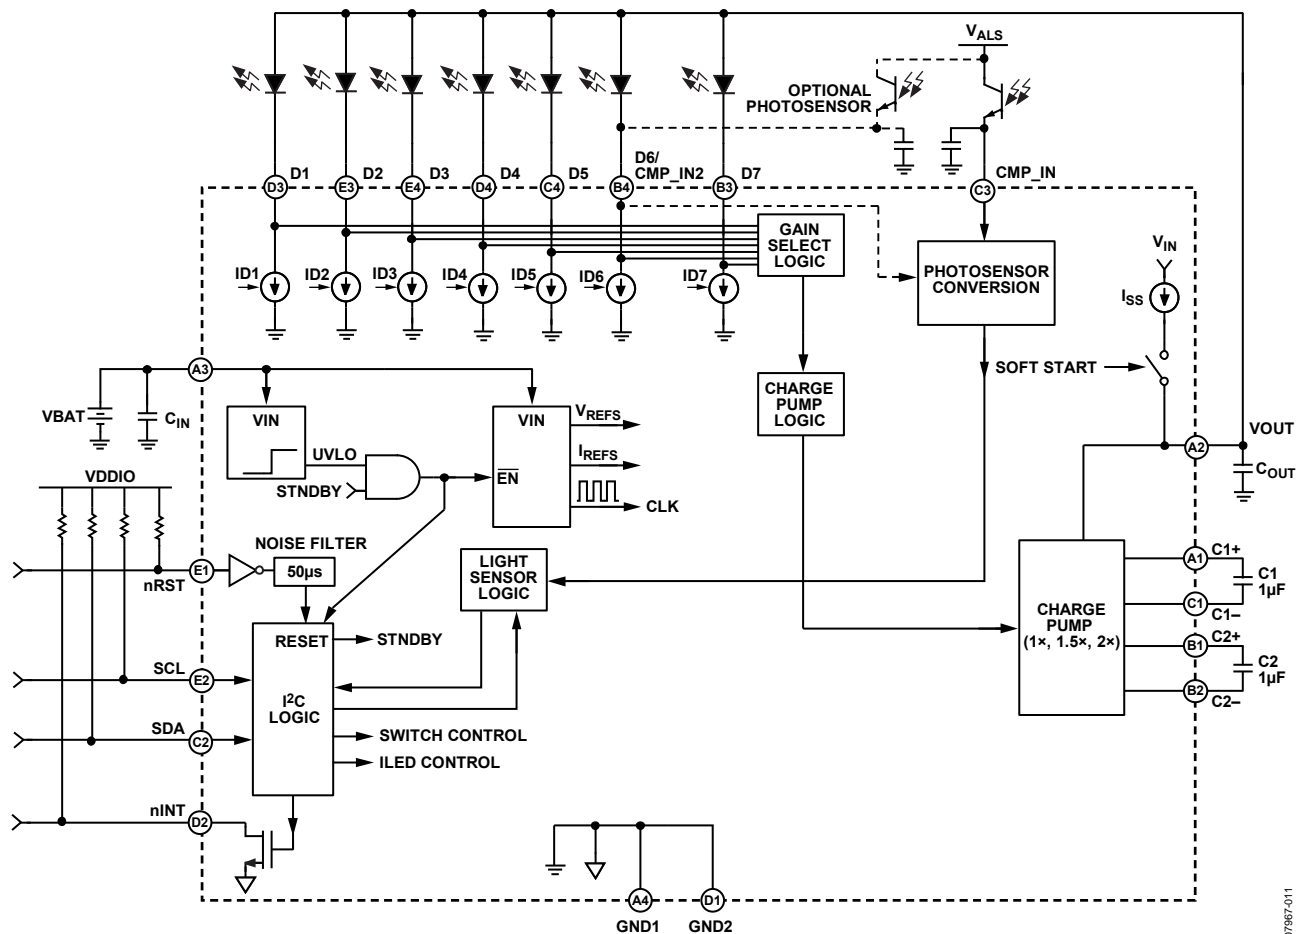

Figure 26. Detailed Block Diagram
By charging the capacitors in different configurations, the charge, and therefore the gain, can be optimized to deliver the voltage required to power the LEDs. Because a fixed charging and discharging combination must be used, only certain multiples of gain are available. The ADP8860 is capable of automatically optimizing the gain (G) from $1\times$, $1.5\times$, and $2\times$. These gains are accomplished with two capacitors (labeled C1 and C2 in Figure 26) and an internal switching network.